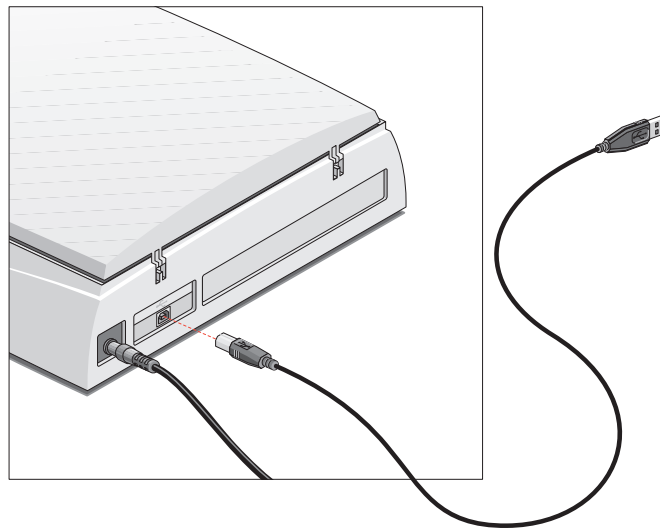

Figure 2
3. Connect one end of your USB cable to the USB port on your scanner. Make sure you connect the correct plug as shown in Figure 2.